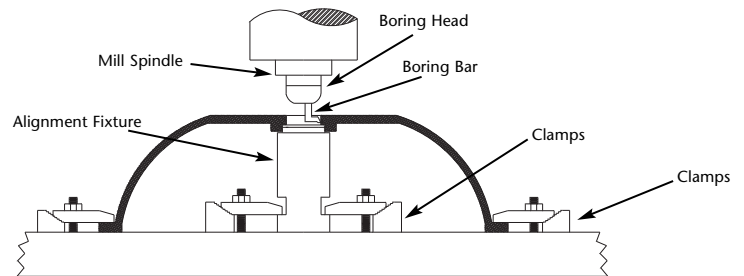

Figure 3
4. Place the bell housing or pump cover over the fixture so that the fixture pilot diameter engages the seal bore. Toe clamp the block mounting surface of the bell housing or pump cover to the mill table (see Figure 3).